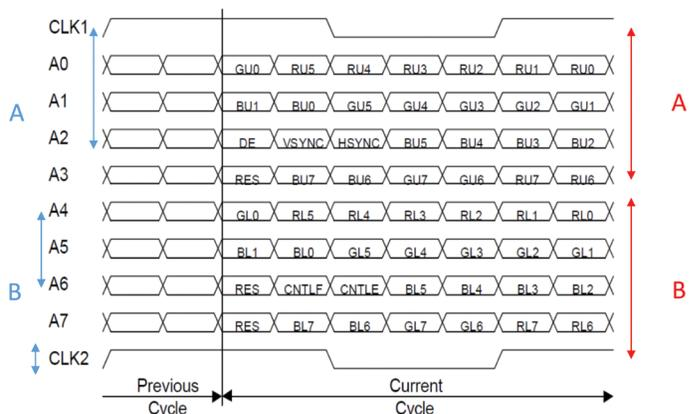

FIGURE 1. OpenLDI can support 8 data lanes (A0 to A7) and up to 2 clock lanes (CLK).
For each of the encoding schemes above, the physical layer takes on a different structure. Refer to Figure 1. The 18-bit single pixel format uses one clock and 3 lanes (A): A0 to A2 data lanes and CLK1. The dual pixel format uses the same lanes and clock, but adds another clock and 3 more lanes (B): A4 to A6 and CLK2.